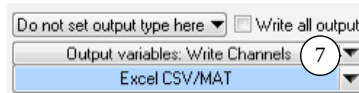

Figure 7. Appearance when a link is made to a dataset specifying variables to write.
When the box is unchecked, a library selection control is shown for advanced users. For routine work where all results are viewed in VS Visualizer, this link is not used. However, the control is available to create a blue link for a dataset that will customize the writing of outputs. When used, this will typically link to a dataset from the **I/O Channels: Write** (Figure 7). Datasets from the **I/O Channels: Write** library can specify other outputs of interest; they can also specify that the output file be automatically scanned to create additional files for use in Excel and/or MATLAB (e.g., CSV and MAT files). These options are described in the document accessed with the menu item: **Help > Model Extensions and RT > Import and Export Variables**.
These controls also give access to output files in Excel and/or MATLAB format if the conversion was specified in an output variables dataset ⑦ (Figure 7, page 6). (These files are created by VS Browser just after the run ends.)